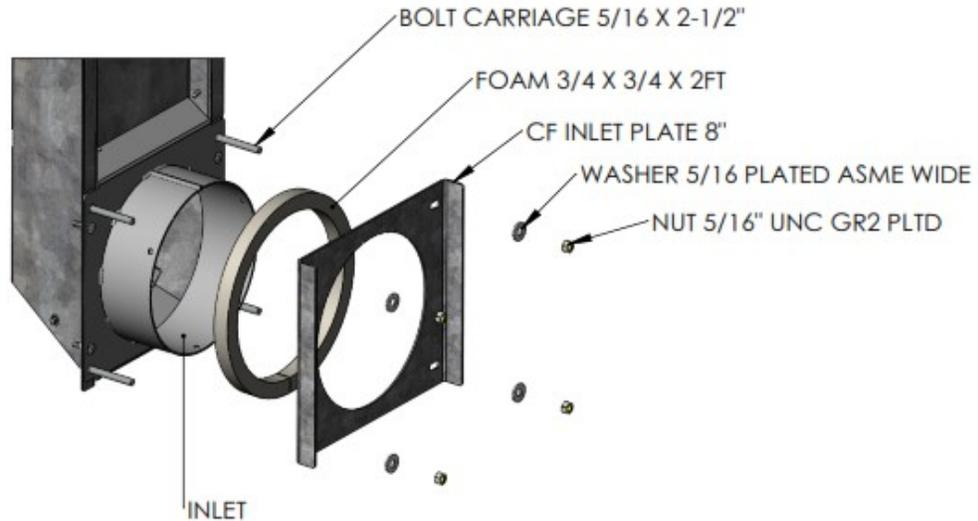

Figure 3.3.3b: Inlet Assembly
- See Figure 3.3.3b below. Once the column assembly has been secured to the bin wall, the INLET can be bolted through the bin wall. Use an electric drill with 1 1/32" bit (not supplied). From the inside of the bin, drill all 4 holes through the inlet plate.